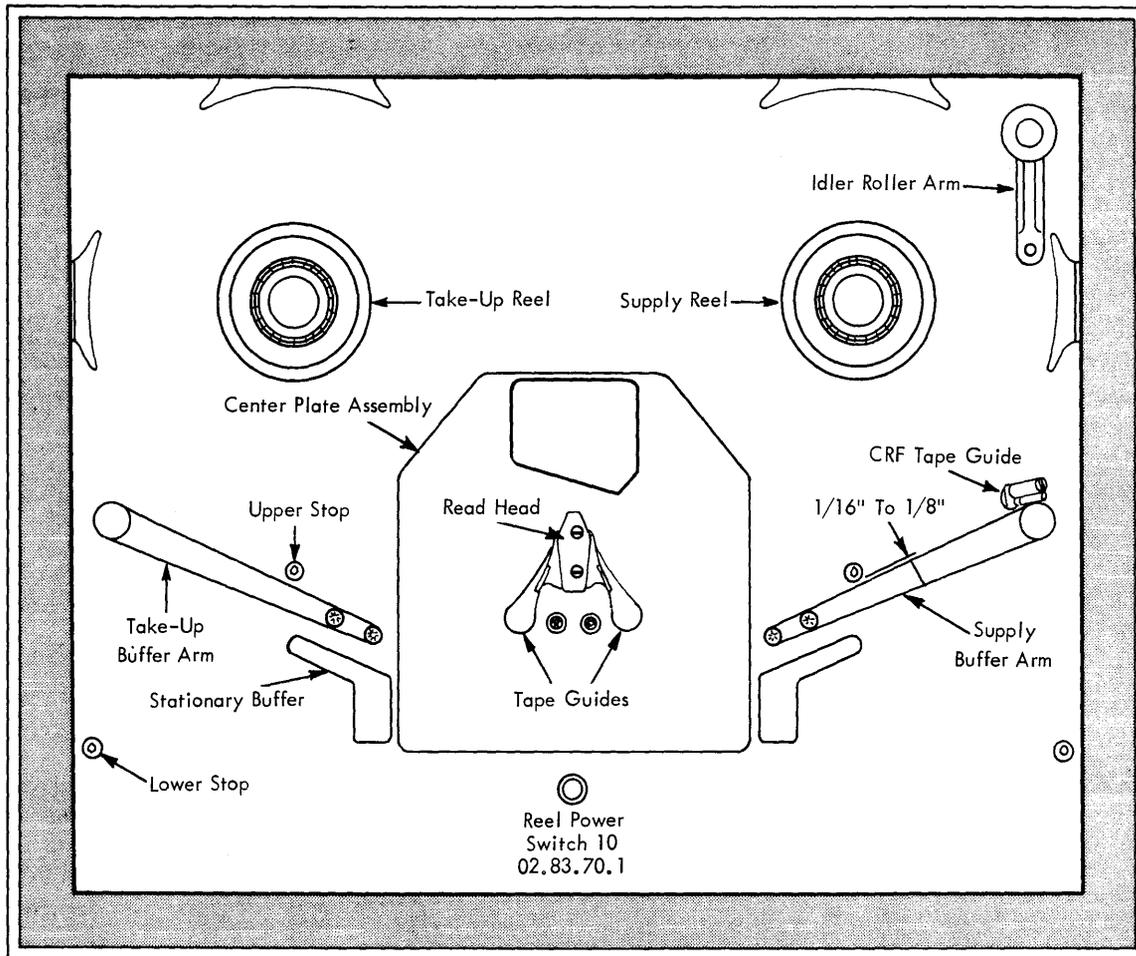
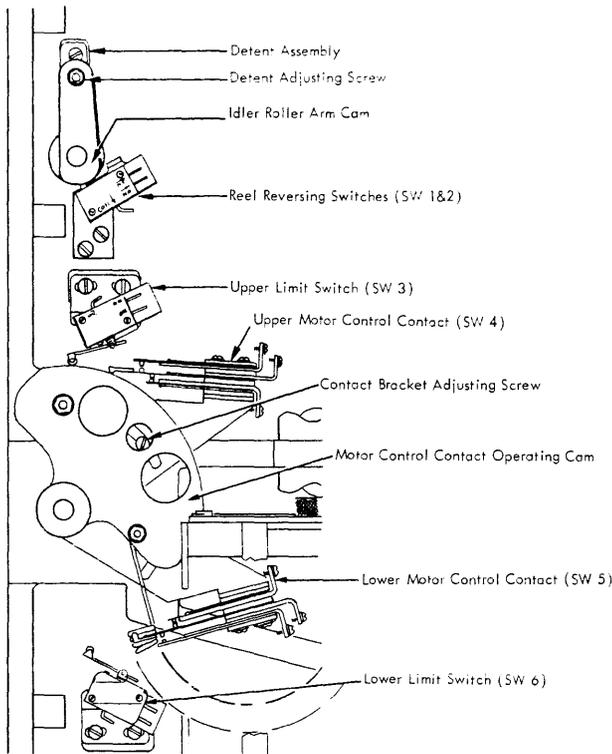
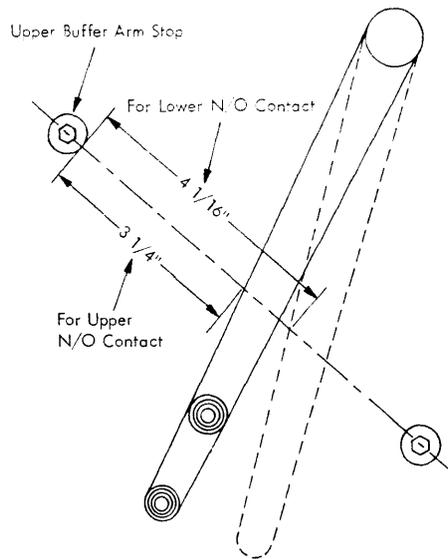
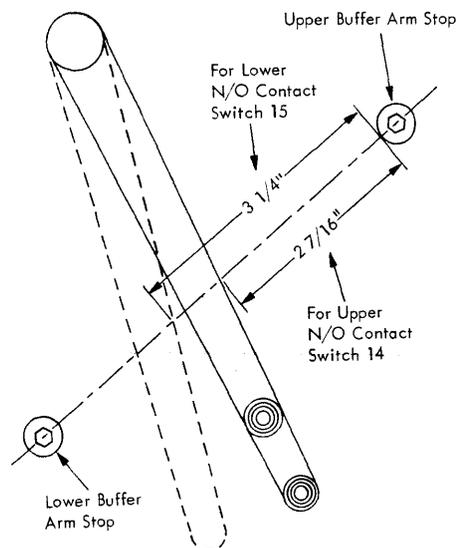

Figure 4-12. 1621 Main Plate – Front View
Figure 4-14. Supply Reel Motor Switches
Figure 4-15. Supply Motor Control Contact Adjustment
Figure 4-16. Takeup Motor Control Contact Adjustment
Adjust the CRF tape guide (Figure 4-12) so that tape will ride on the friction feed roller.
1. Position the motor control contact operating cam (Figure 4-14) on its shaft so that the buffer arm is $\frac{1}{16}$ to $\frac{3}{8}$ " from its upper stop (Figure 4-12) when the cam is fully detented.
2. Move the arm downward. The upper limit switch (Figure 4-14) should make when the buffer arm tape rollers (two) are in line with $\frac{1}{4}$ " below the stationary buffer rollers (three). Move the switch mounting bracket to accomplish this adjustment.
3. Continue to move arm downward. Lower limit switch (Figure 4-14) should break when arm is $\frac{1}{4}$ to $\frac{1}{8}$ " from lower stop (Figure 4-12). Move switch mounting bracket to accomplish this adjustment.
1. Move buffer arm upward. Upper N/O motor control contact (Figure 4-14) should make when the arm is approximately $3\frac{1}{4}$ " from its upper stop, as shown in Figure 4-15. Move the contact bracket to obtain this adjustment.
2. Move the buffer arm downward. The N/O motor control contact (Figure 4-14) should make when the arm is approximately 4" from its upper stop, as shown in Figure 4-15. Move contact bracket to obtain this adjustment.
1. Move buffer arm upward. The upper N/O motor control contact (Figure 4-14) should make when arm is approximately $2\frac{7}{16}$ " from its upper stop, as shown in Figure 4-16. Move contact bracket to obtain this adjustment.
2. Move the buffer arm downward. The lower N/O motor control (Figure 4-14) should make when the arm is approximately $3\frac{1}{4}$ " from its upper stop. See Figure 4-16.
2. Move the detent adjusting screw (Figure 4-14) to obtain a $\frac{1}{32}$ " clearance between the screw and the detent ball cover.